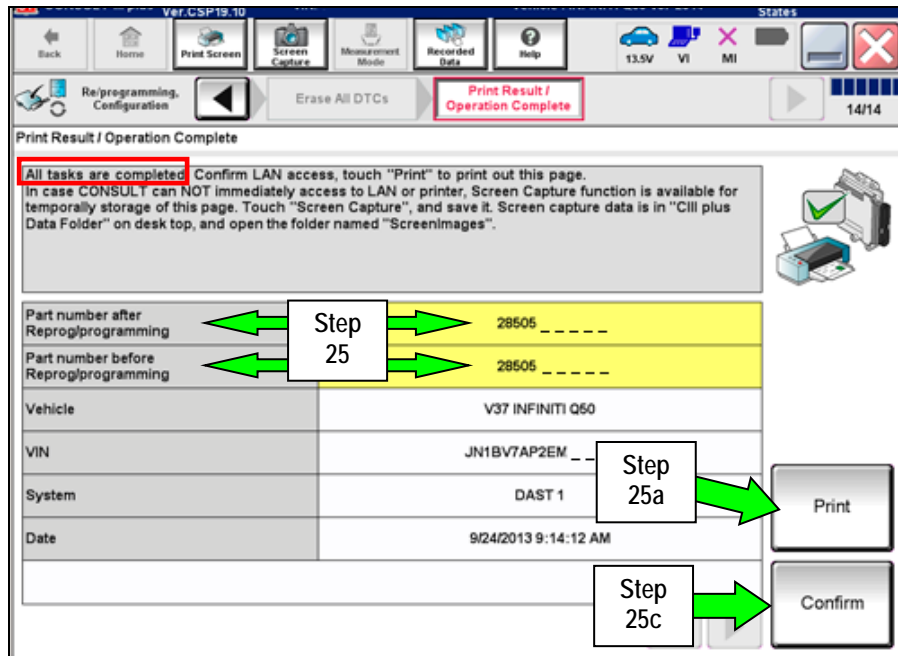

Figure 22
- a. Print a copy of the screen in Figure 22 by selecting Print.